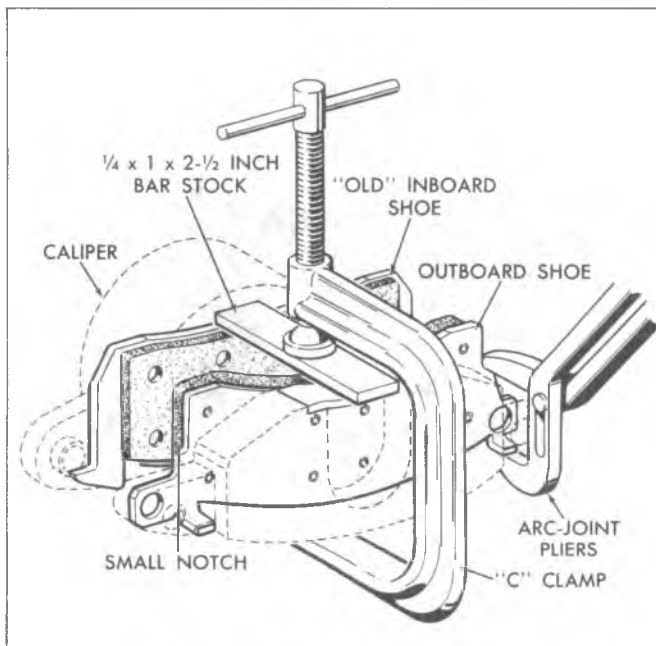

Fig. 33—Fitting Shoe to Caliper
8. Using a 1/4 x 1 x 2-1/2 inch metal bar, supported on the "old" inboard shoe and the lower flange of the outboard shoe (fig. 33), clamp with moderate pressure using a clean "C" clamp.
9. Using arc joint pliers, as shown in Figure 33, bend both upper ears of the outboard shoe over the caliper until the clearance between the shoe ear and the caliper (measured at both the edge and side of the caliper) is 0.005 inch or less. Locate pliers on small notches opposite ears.